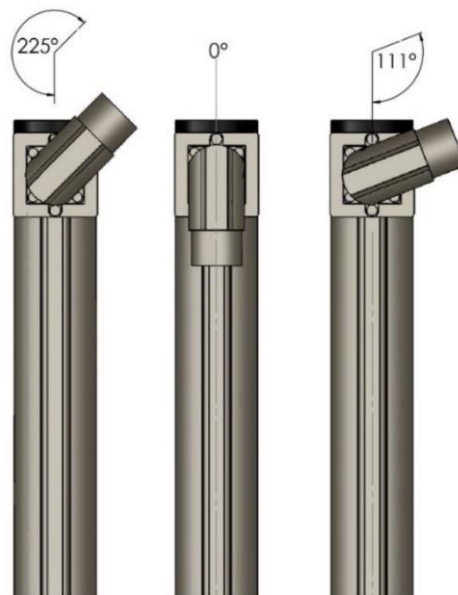

Fig. 17 Setting the C-motor connector (ES30 modules)
If C-motor connector are provided for the ES30 modules, the C-connector can be rotated in both directions (see Fig. 17). In this case, the maximum rotatability of the C-connector must be observed.
- If it is necessary to adjust the connector, always observe the maximum permissible rotatability (see Fig. 17).